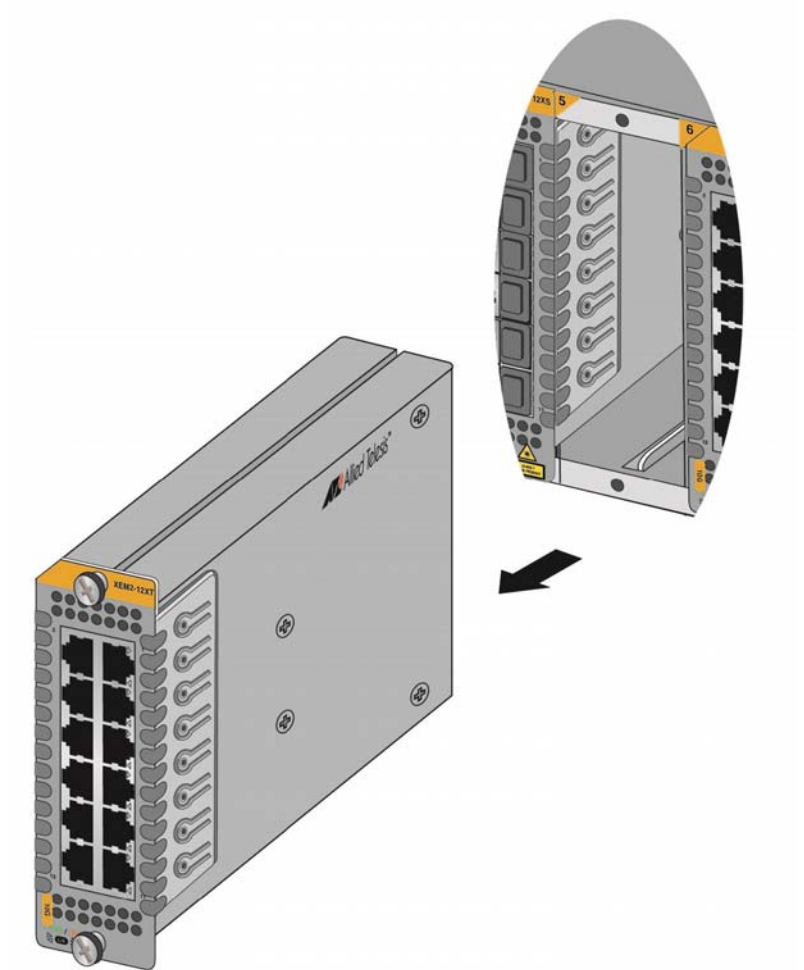

Figure 120. Sliding an Ethernet Line Card from the Chassis
6. Carefully slide the card from the chassis. Refer to Figure 120 on page 165.